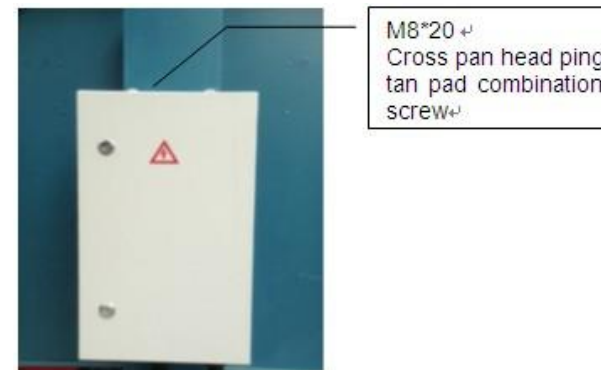

Fig 4 Control box fastening diagram
- **Step 5:** Use 4 M8\*20 cross pan head ping tan pad combination screws to fasten the control box on the back of the fixed column, as shown in Fig 4.